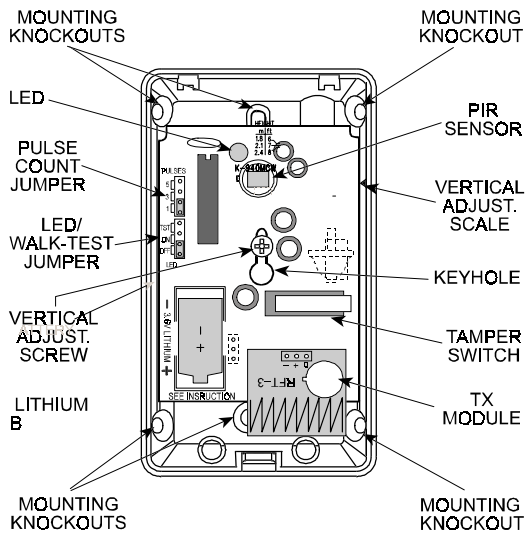

Figure 2. Components Layout
A. Insert the battery into the battery clip - observe polarity (see Figure 2).
**Note:** For wall surface mounting, use the two elongated knockouts at the middle of the base. For corner mounting, use two diagonally opposite knockouts at the angled sides of the base (see Figure 2).